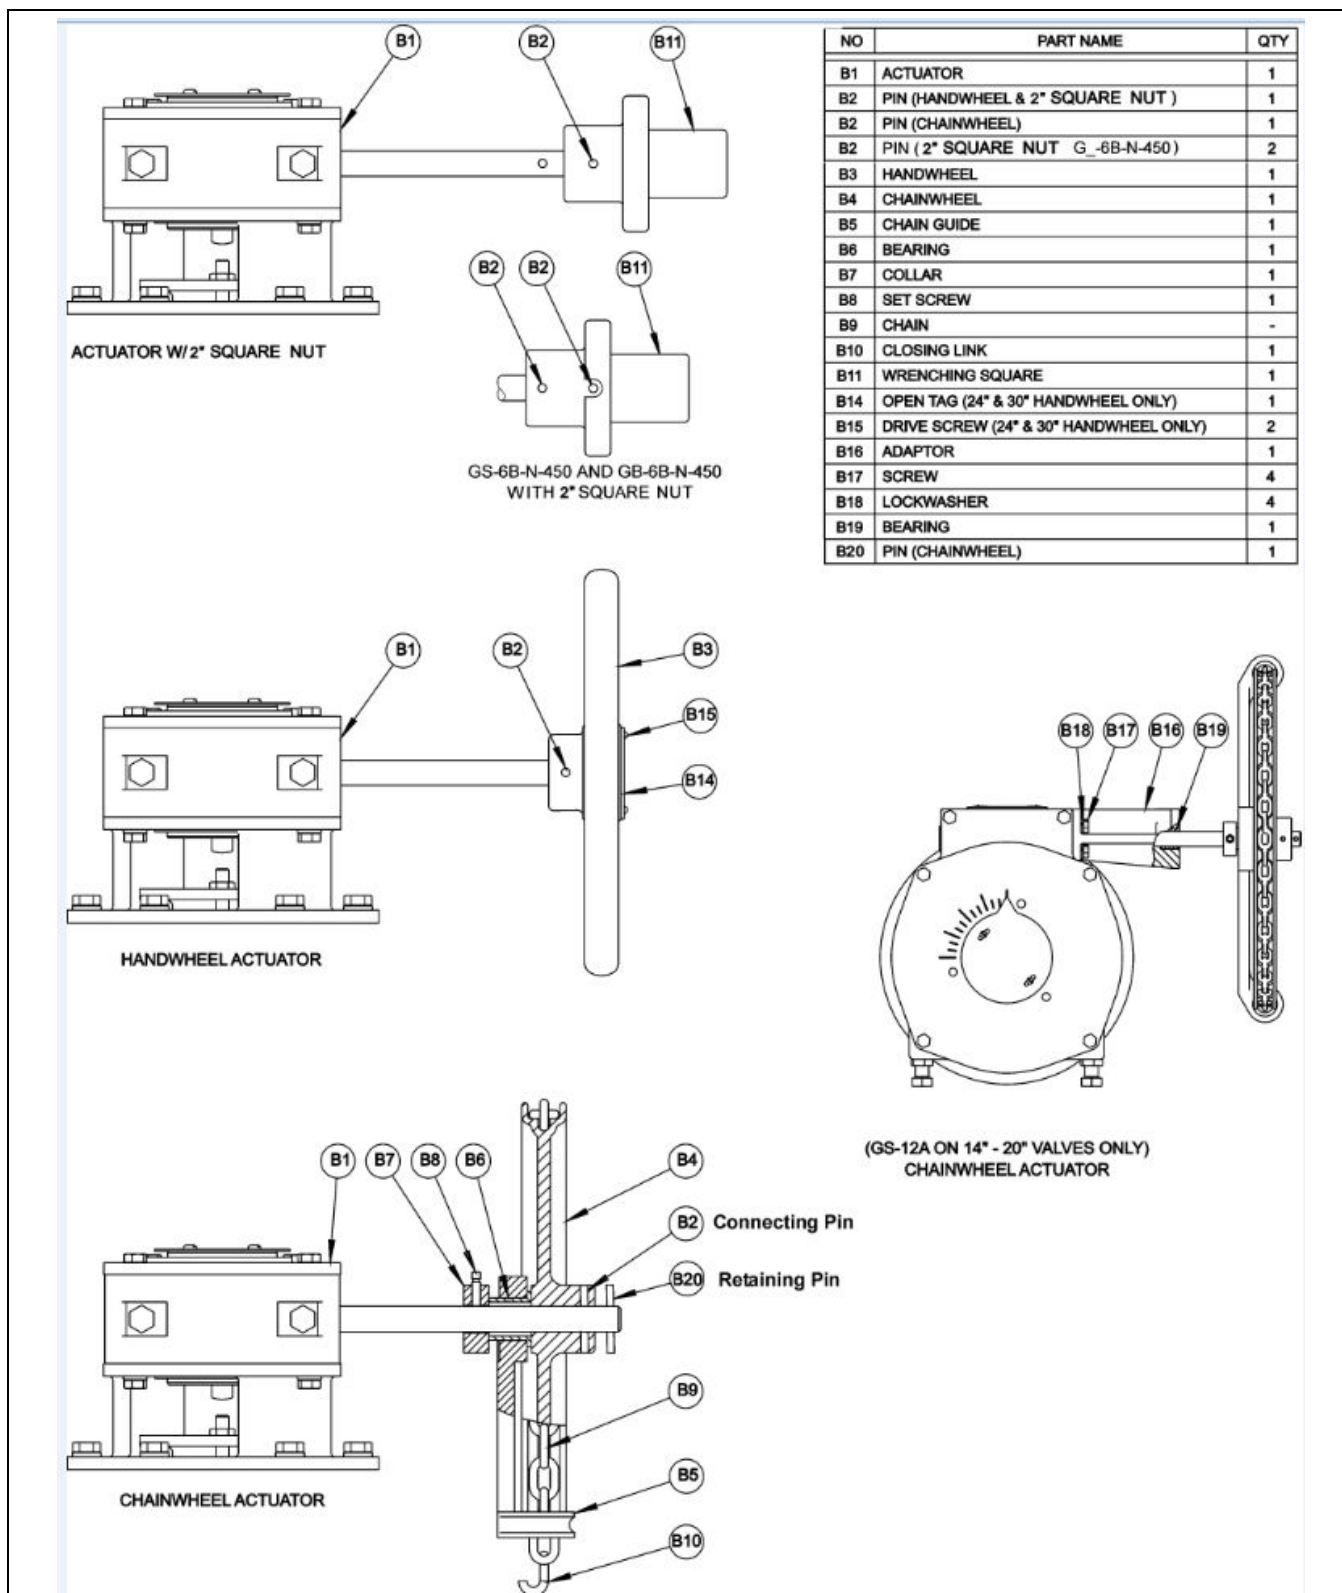

Figure 7 – G_-6B and G_-12A Operator Component Identification
5. Slide chainwheel (B4) onto actuator shaft (B1F) with pin hole in hub facing away from actuator and line up pin hole in chainwheel hub with second hole in actuator shaft. Support the hub of chainwheel with a solid surface and drive connecting pin (B2) into position. See Figure 7 for location of connecting pin.